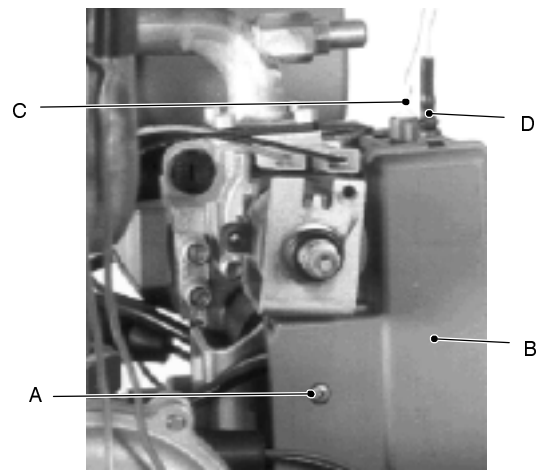

fig. 51
- 2 Unscrew screw *A* and remove the protection cover *B*; disconnect the flame detection cable *C* and the ignition cable *D* (fig. 51);